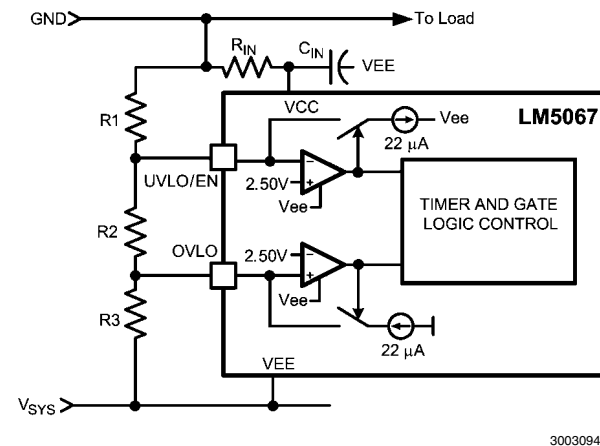

FIGURE 11. UVLO and OVLO Thresholds Set By R1-R3
**Option A:** The configuration shown in Figure 11 requires three resistors (R1-R3) to set the thresholds.